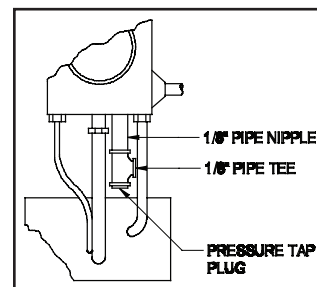

Figure 9
2. Replace the pressure tap plug with the $\frac{1}{8}$ " pipe nipple and pipe tee. Install pressure tap plug at the bottom of the pipe tee. (See Figure 9)